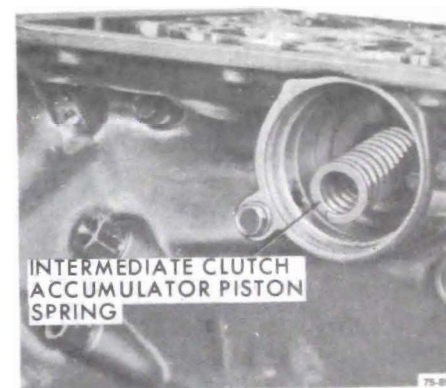

Figure 75-131
2. Install intermediate clutch accumulator piston spring. See Figure 75-131.